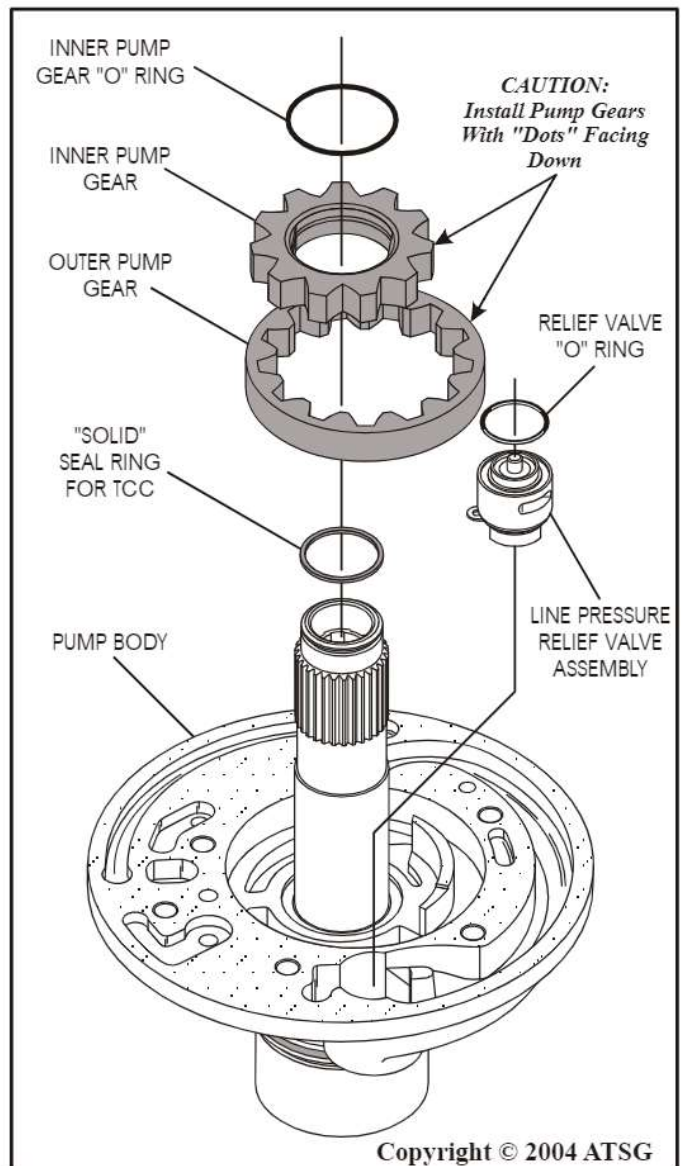

Figure 60
7. Install a new "O" ring on the inside diameter of the inner pump gear and ensure that it is fully seated in the groove (See Figure 60). Lube with a small amount of Trans-Jel®.
8. Dip the pump gears into transmission fluid and install them with the "Dots" facing down, as shown in Figure 60.
Caution: The pump gears must be installed with the "Dots" facing down (See Figure 60).
9. Install a new "Solid" seal ring in the groove in the stator shaft, as shown in Figure 60.
10. Install the line pressure relief valve into the cavity in the pump, as shown in Figure 60.